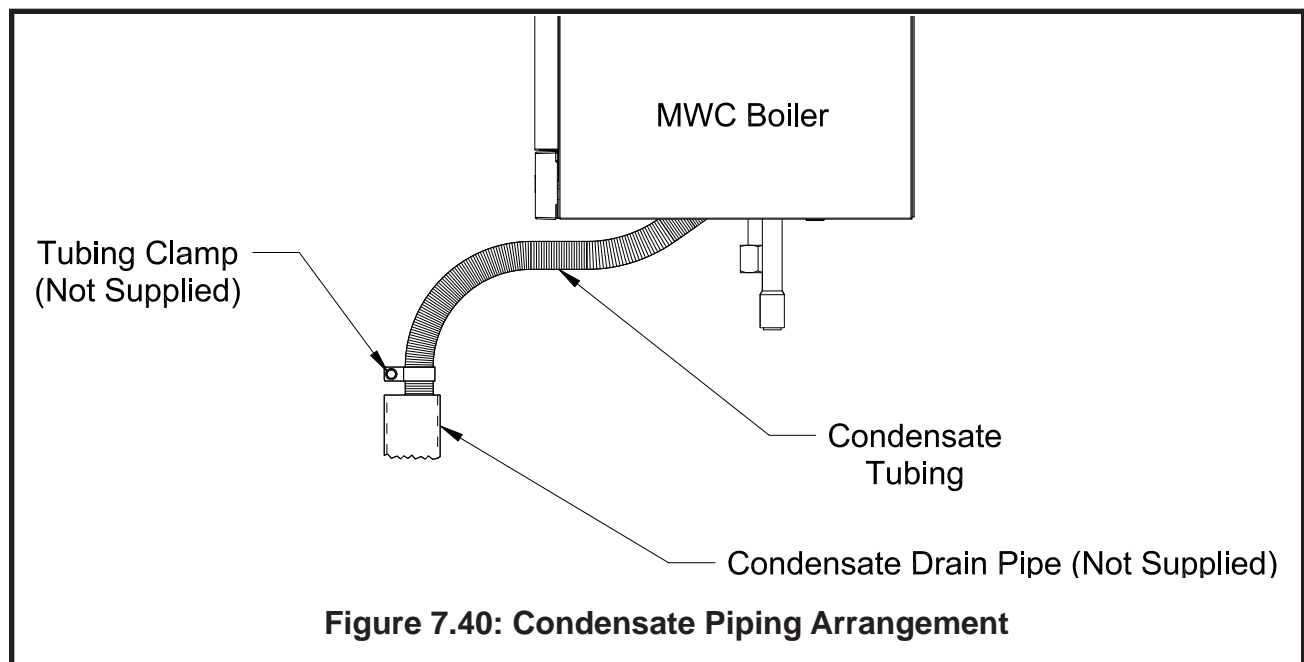

Figure 7.40: Condensate Piping Arrangement
- If the condensate drain line must be extended, construct the extension from PVC or CPVC pipe. Insert the hose provided with the boiler into the end of the extension as shown in Figure 7.40.
- Do not attempt to move the trap from the location shown in Figure 7.40. Do not attempt to substitute another trap for the one provided with the boiler.